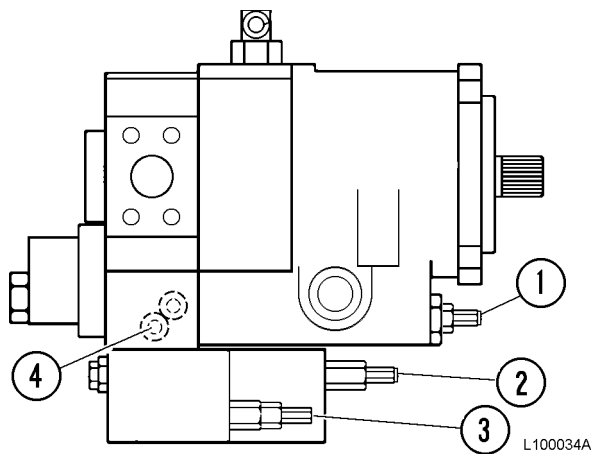
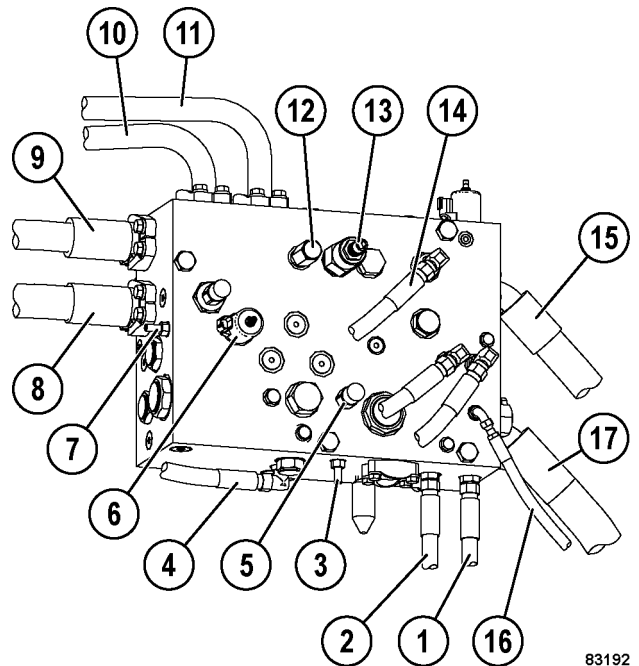

FIGURE 10-9. STEERING/BRAKE PUMP ADJUSTMENTS
FIGURE 10-10. BLEEDDOWN MANIFOLD
3. Install an accurate 35 000 kPa (5,000 psi) pressure gauge at steering pressure "GPA" test port (4, Figure 10-9) located on the suction side of the pump. Install a second 35 000 kPa (5,000 psi) gauge in bleeddown manifold test port "TP2" (3, Figure 10-10).
4. Turn unloader valve adjustment screw (2, Figure 10-9) clockwise until it bottoms out.
5. Back out compensator adjustment screw (3) by turning it counterclockwise.